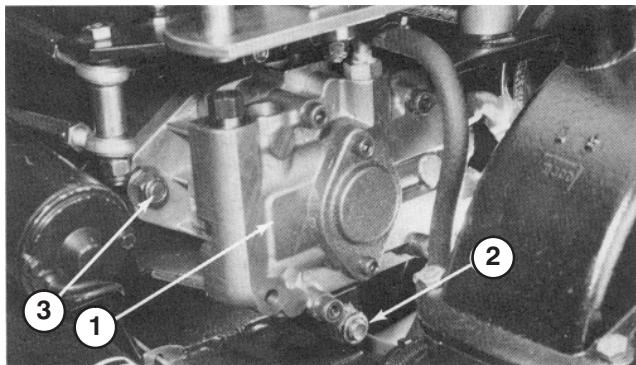

Figure 32
- A. Loosen the pivot nut securing the pump mount to the pump support (Fig. 32).
- B. Loosen the adjusting nut securing the pump and pump mount to the slotted pump support (Fig. 32).
- D. Use a pry bar to pull the pump toward the outside of the machine until the proper belt tension is attained; then tighten the adjusting nut securing the pump and pump mount to the pump support (Fig. 32).
- E. Tighten the pivot nut securing the pump mount to the pump support (Fig. 32).